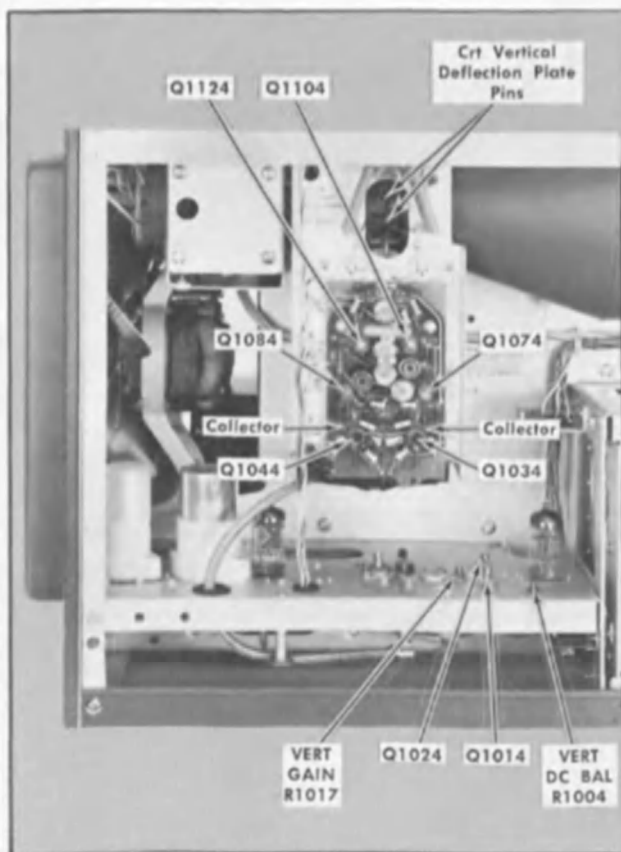

Fig. 5-4. Vertical Amplifier test points and adjustment locations for performing steps 9 and 10.
- Using a small screwdriver, short the crt vertical deflection-plate pins together (see Fig. 5-4).
- e. Short the collector of Q1034 to the collector of Q1044 (see Fig. 5-4) and note the trace deviation from electrical center. Deviation should not be more than 0.5 cm maximum. Remove the short.
- f. Short the cases of Q1014 and Q1024 (see Fig. 5-4) together (not to ground) and note the trace deviation from electrical center. Deviation should not be more than 0.5 cm maximum. Remove the short.
- h. Adjust VERT DC BAL R1004 (see Fig. 5-4) to position the trace to the center of the graticule.
- e. Adjust VERT GAIN R1017 (see Fig. 5-4) so the display vertical deflection is exactly 4 cm in amplitude.